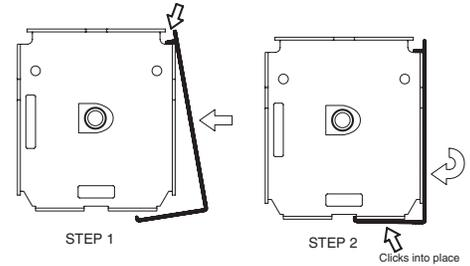

Figure 5
- ③ Place fascia top lip over top edge of endcaps, then rotate down and snap into place (see Fig. 5). NOTE: Make sure shade fabric does not retract completely behind fascia.